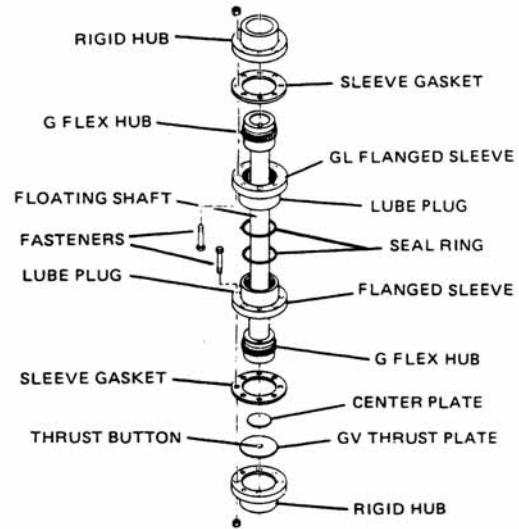

Figure 11. Falk Double Gear Coupling - Vertical
- (1) Install stand per Paragraph 8 (Page 4). Tighten foundation bolts prior to coupling installation and alignment.
- (2) Make sure that the surface of the stand which the driver sits on is free of paint, weld splatter, etc. Mount the driver on top of the stand, making sure that the driver flange does not bind on the adjusting bolts.
- (3) Coupling alignment should be done prior to connecting suction and discharge piping. It is normally good practice to leave a section of piping on the suction and discharge of the pump casing to be fabricated after alignment has been completed. A recheck of alignment should be done after piping is installed.
- (4) Falk Double Gear Coupling
- (a) Refer to Figure 11. Pack the sleeve teeth with grease and lightly coat with grease before assembly. See Step 5 (b), page 11 for lubricant requirements.